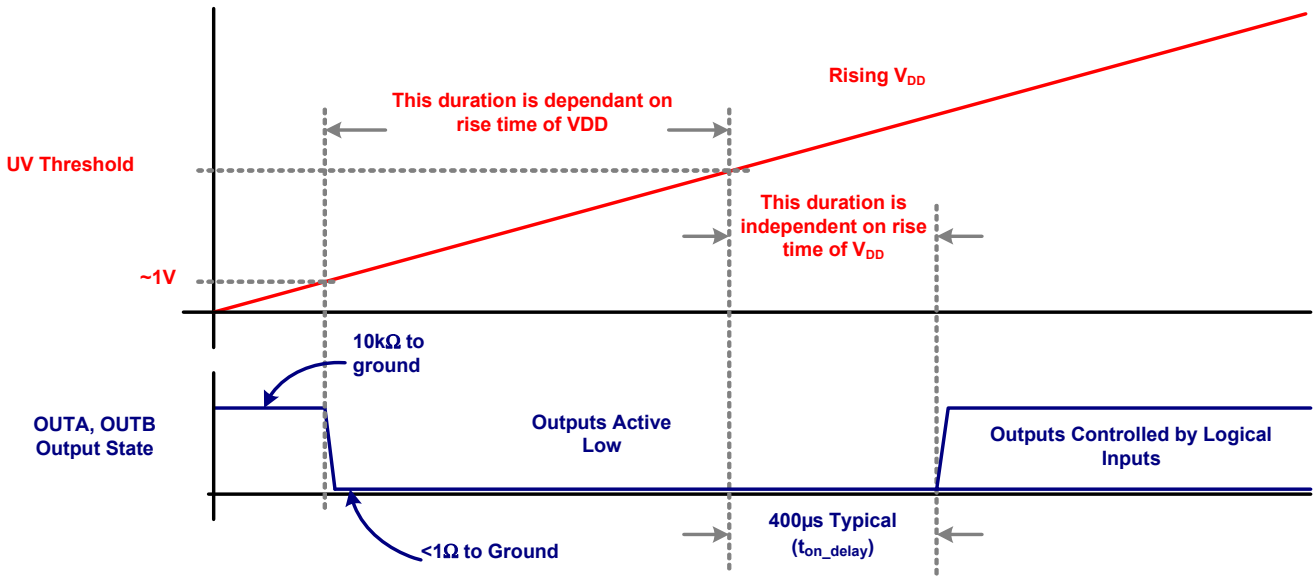

Figure 10. Start-Up Output Characteristic
- A 400 $\mu\text{s}$  delay further inhibits the release of the output state when the UV positive going threshold is crossed. See Figure 10 on page 10.
The start-up sequence for input threshold Options A, B, and C prevents unexpected glitches when  $V_{DD}$  is being turned on or turned off. When  $V_{DD} < \sim 1V$ , an internal  $10k\Omega$  resistor connected between the output and ground helps keep the gate voltage close to ground. When  $\sim 1V < V_{DD} < UV$ , both outputs are driven low while ignoring the logic inputs. This low state has the same current sinking capacity as during normal operation, and it ensures that the driven FETs are held off even if there is a switching voltage on the drains that can inject charge into the gates using the Miller capacitance. When  $V_{DD} > UVLO$ , and after a  $400\mu s$  delay, the outputs now respond to the logic inputs. See Figure 10 for complete details.